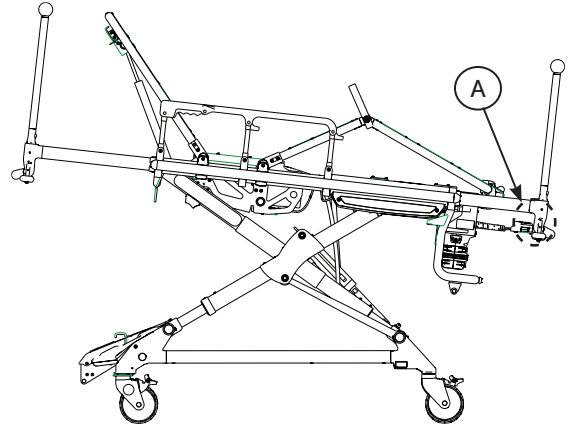

Figure 30 - Head and Foot Section Extended
1. Squeeze the red release levers (A) on each side of the frame as you pull the head or foot section out of its retracted position (see Figure 30).